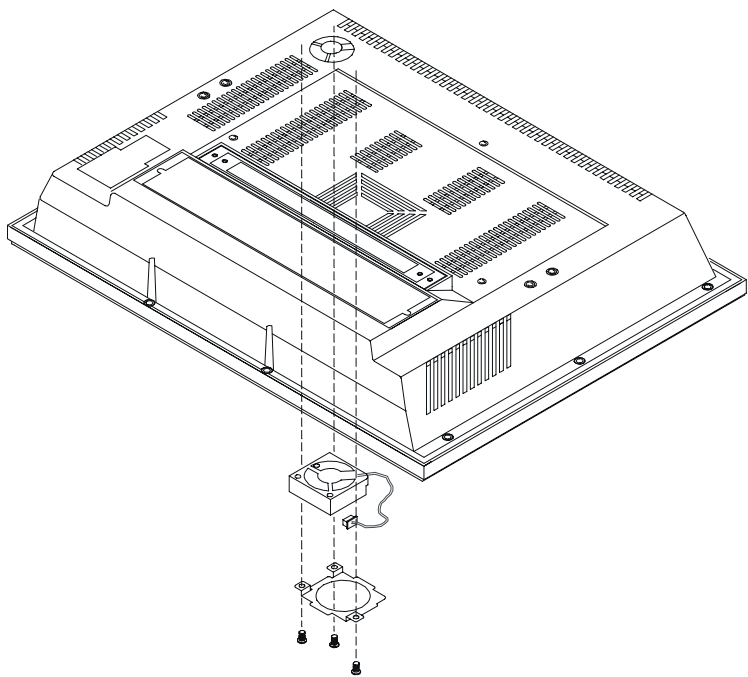

Figure 2-15: Replacing the cooling fan
3. The cooling fan is located inside the rear panel. You can remove the cooling fan by first removing the four screws (Figure 2-15).